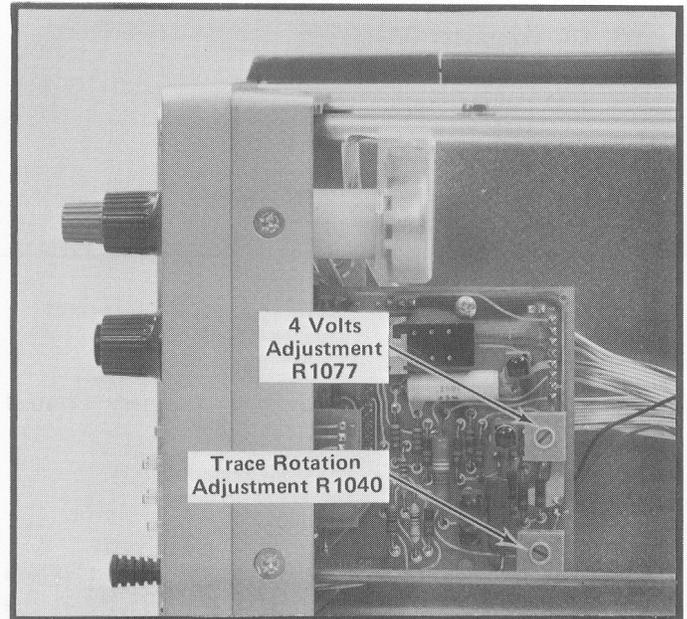

Fig. 5-3. Locations of adjustments on Calibrator circuit board.
d. ADJUST—4 Volts adjustment R1077 (see Fig. 5-3) for a meter reading of exactly 4 volts.
d. ADJUST—Trace Rotation adjustment R1040 (see Fig. 5-3) to align the trace with the center horizontal line.